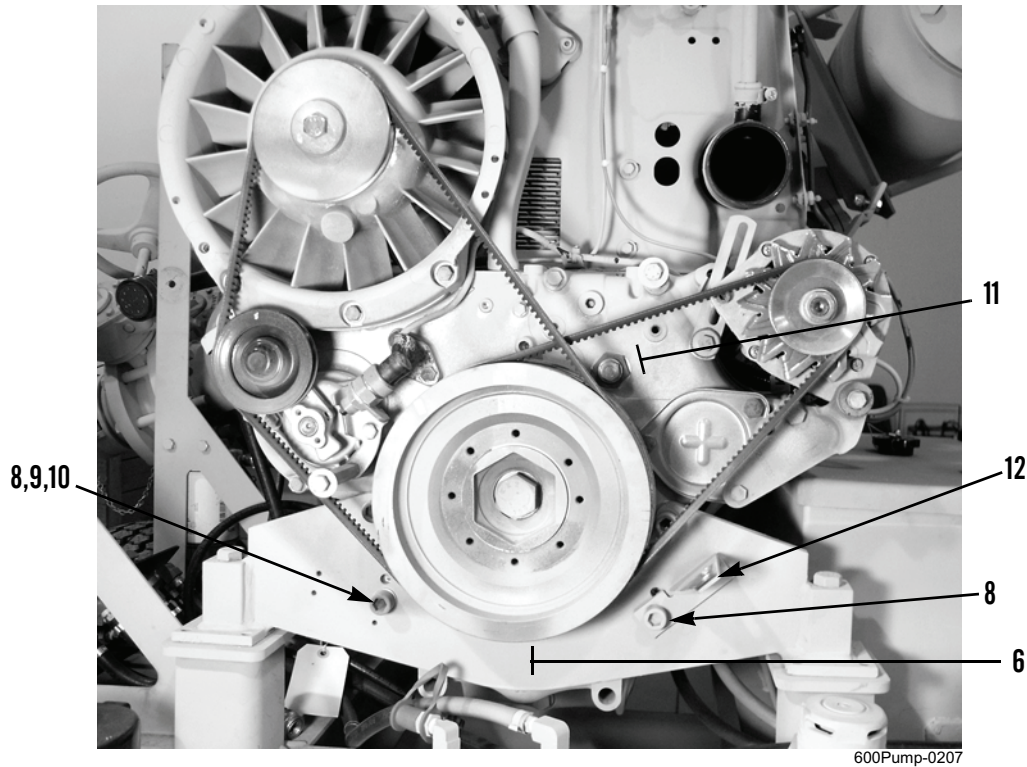

Figure 3. Front Engine Mount.
3. Remove bolt (Figure 3, Item 8) and bracket (Figure 3, Item 12) from engine crossbeam (Figure 3, Item 6) and front engine cover (Figure 3, Item 11).
4. Remove three bolts (Figure 3, Item 8), lockwashers (Figure 3, Item 9), washers (Figure 3, Item 10), and engine crossbeam (Figure 3, Item 6) from front engine cover (Figure 3, Item 11). Discard lockwashers.
1. Install engine crossbeam (Figure 3, Item 6) on front engine cover (Figure 3, Item 11) with three washers (Figure 3, Item 10), new lockwashers (Figure 3, Item 9), and bolts (Figure 3, Item 8).
2. Install bracket (Figure 3, Item 12) on engine crossbeam (Figure 3, Item 6) and front engine cover (Figure 3, Item 11) with bolt (Figure 3, Item 8).